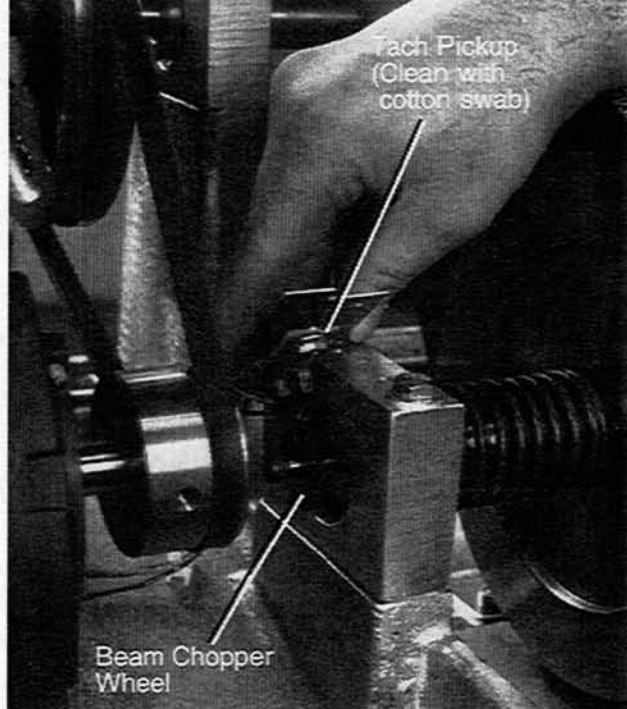

Figure 3-10. Cleaning the Optical Sensor
2. Moisten a cotton swab with alcohol, then gently rub it between the sensor and the LED to remove any dirt (Figure 3-10).